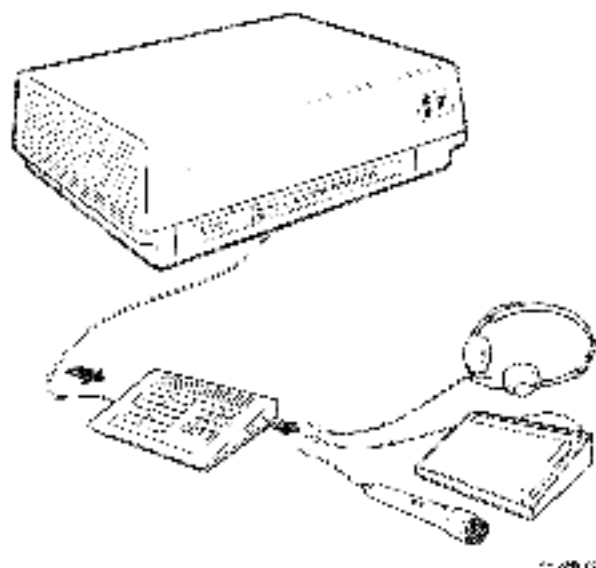

Figure 2-33 Voice Unit
2. Unplug the accessories from the voice unit (Figure 2-33).